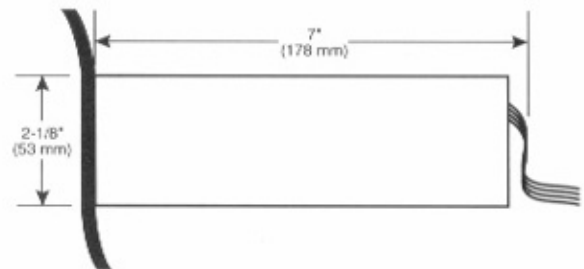

Figure 7. Depth Required.
4. Make sure there is a clearance of at least seven inches (178 mm) behind the dash (see Figure 7).